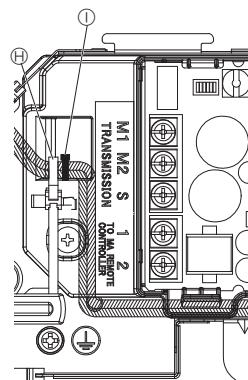

Fig. 5-7
- Install a band on the optional lead wire, and perform measures against tension. (Fig. 5-7)